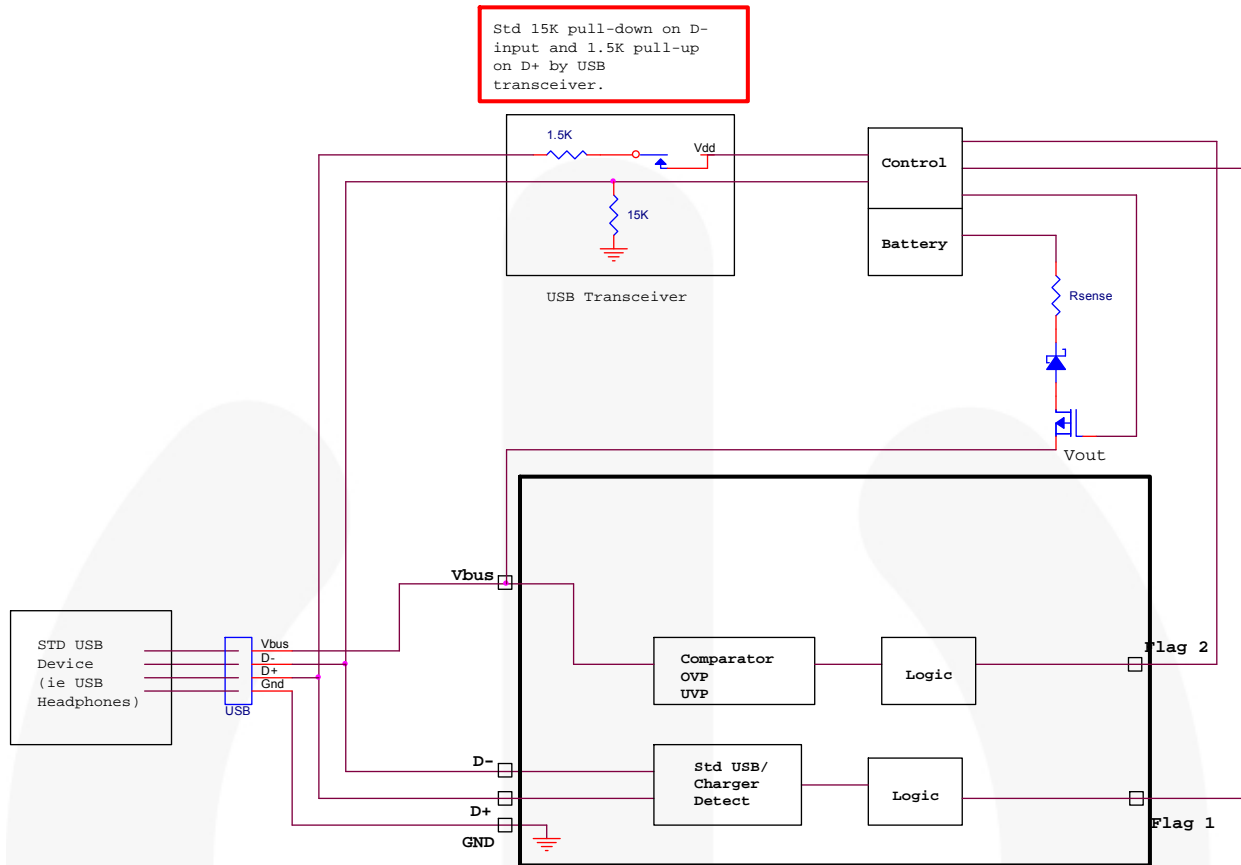

Figure 7. Typical Application System with USB Transceiver
1. See Figure 7.
With USB Transceiver (Figure 7)